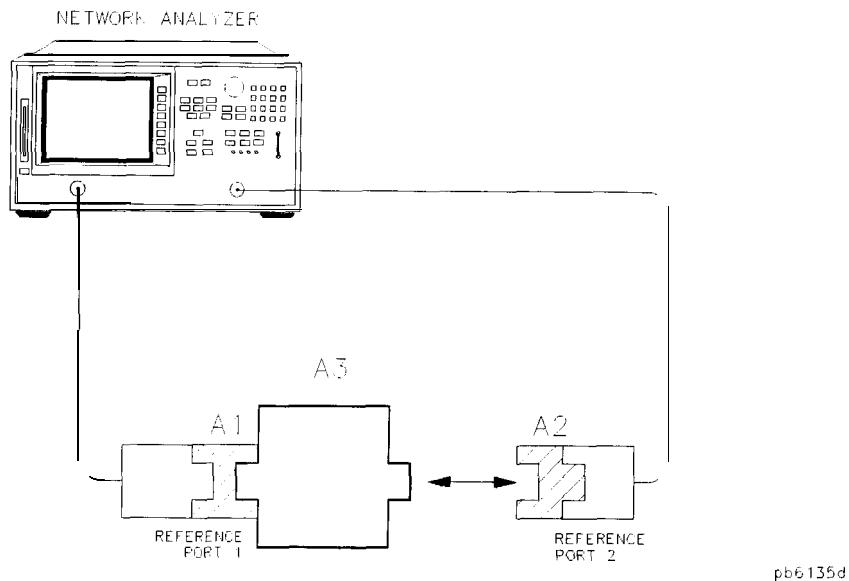

Figure 5-13. Two-Port **Cal** Set 2
4. Connect adapter A3 to adapter A1 on port 1. (See **Figure 5-13.**)